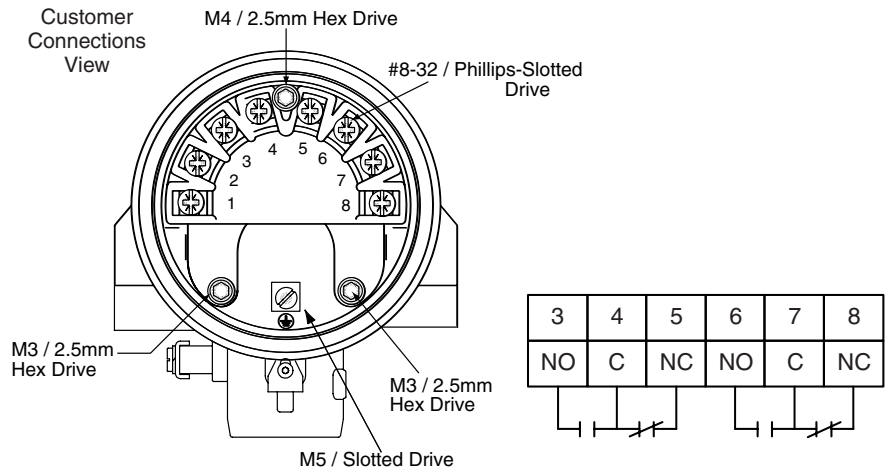

Figure 5.2
- A. Relay circuits consist of single-pole double-throw relay contacts brought out to terminal strips for external switching. See **Figure 5-2**.